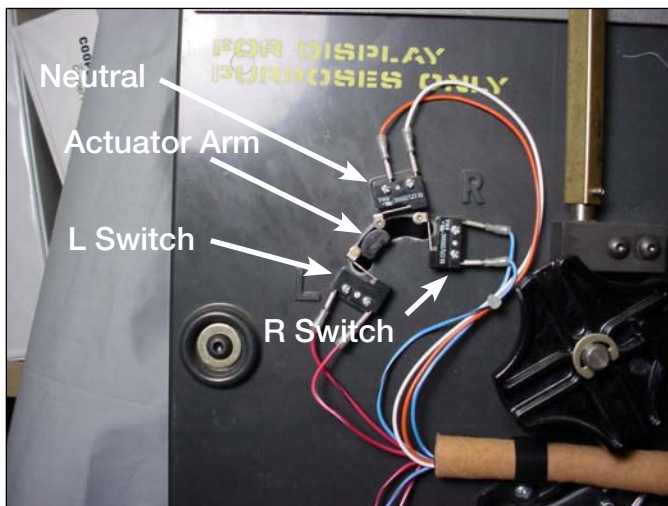

Figure 31.
- Place and fasten the reversing logic and neutral logic micro switches on the upper left of the drive assembly panel. The micro switch with a blue/white striped wire and blue/black striped wire is located on the R position. The micro switch with a red/white striped wire and red/black striped wire is located on the L position. The micro switch with an orange wire and a white wire is located on the center position between the R and L position. See Figure 31.
- Rotate the pinion back clockwise until the arm in Figure 31 is in the center and the neutral switch is depressed.